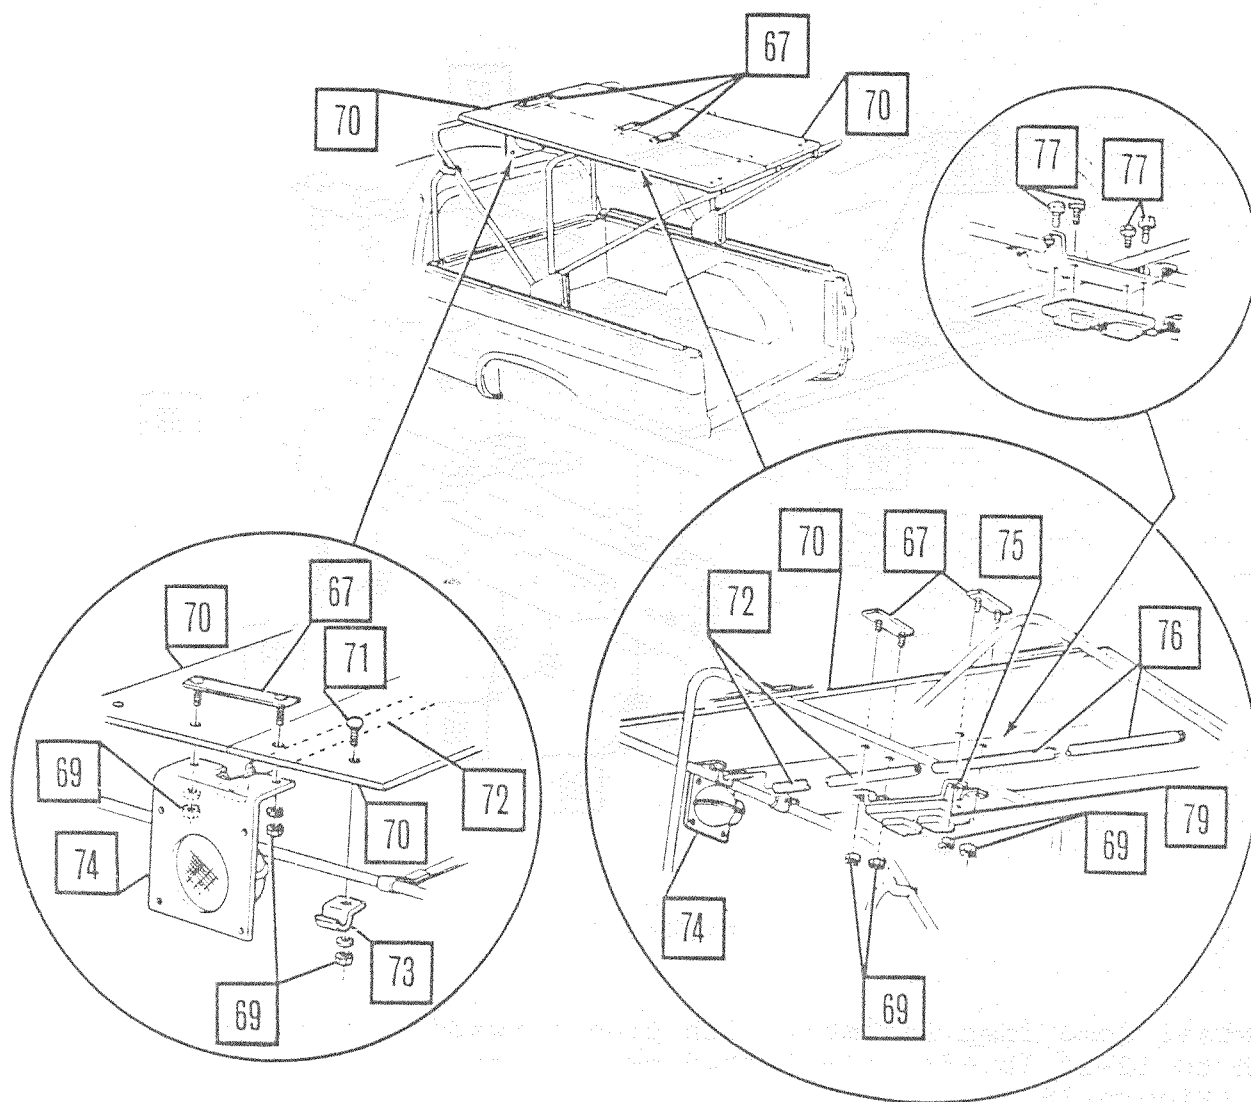

Figure 18.
61. Install dome lamp assembly with plug forward, to bracket and tighten to 12-16 lb.-ft. (16.0-22.0 Nm). Install bracket to roof panels (Figure 18.).
62. Position rear tubular support into rear header panel assembly and center lamp bracket (Figure 18.).
63. Loosely install front air intake duct adaptor assembly to roof panel inner support plate assembly, with nuts (Figure 18.).
64. Loosely install round head bolts, brackets and nuts around front bow and through roof panel (Figure 18.).
65. Install front tubular support identified by saw cut in end of tube to air intake duct adaptor and center lamp bracket (Figure 18.).